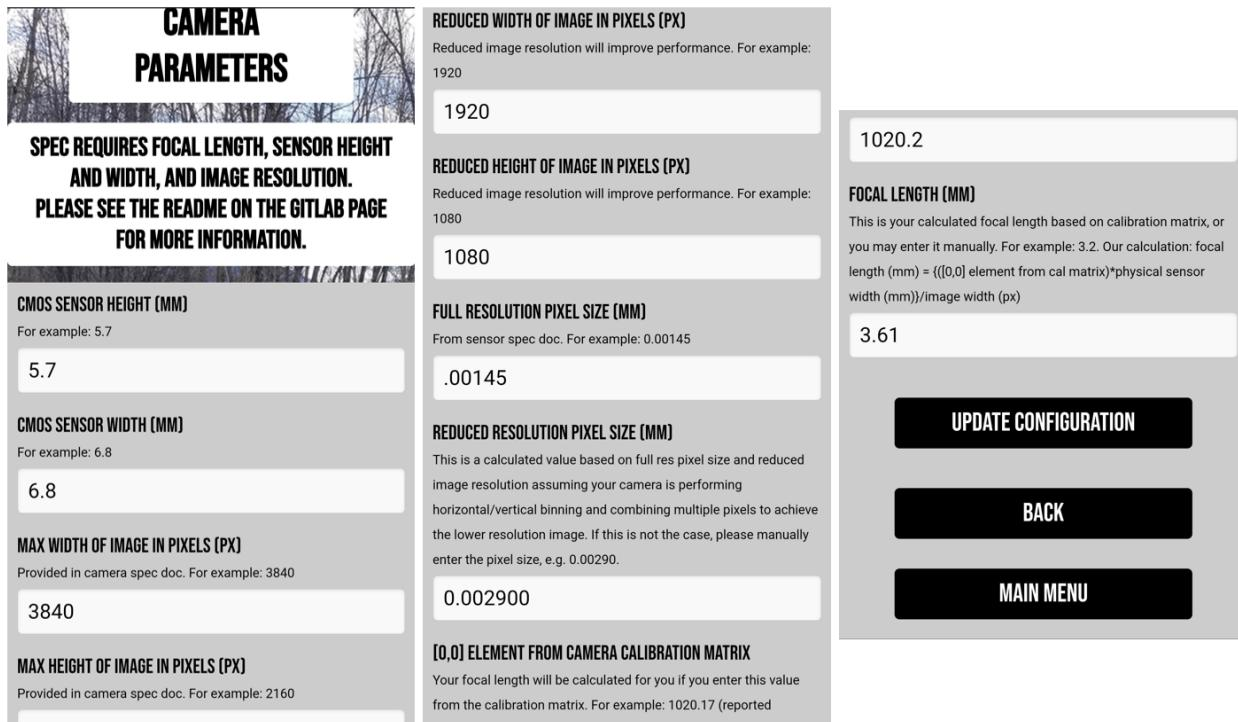

Figure 30. Camera Parameters page as seen from left to right.
- Proceed to Main Menu, Setup and Calibrations, and Camera Parameters as seen in Figure 30.